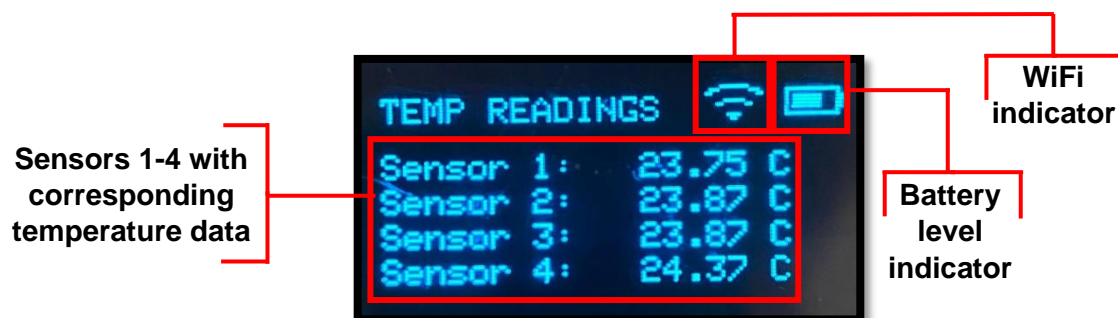

Figure 3: Display Elements
- Observe if the display is providing sustained image/text with all key elements as shown in Figure 3.